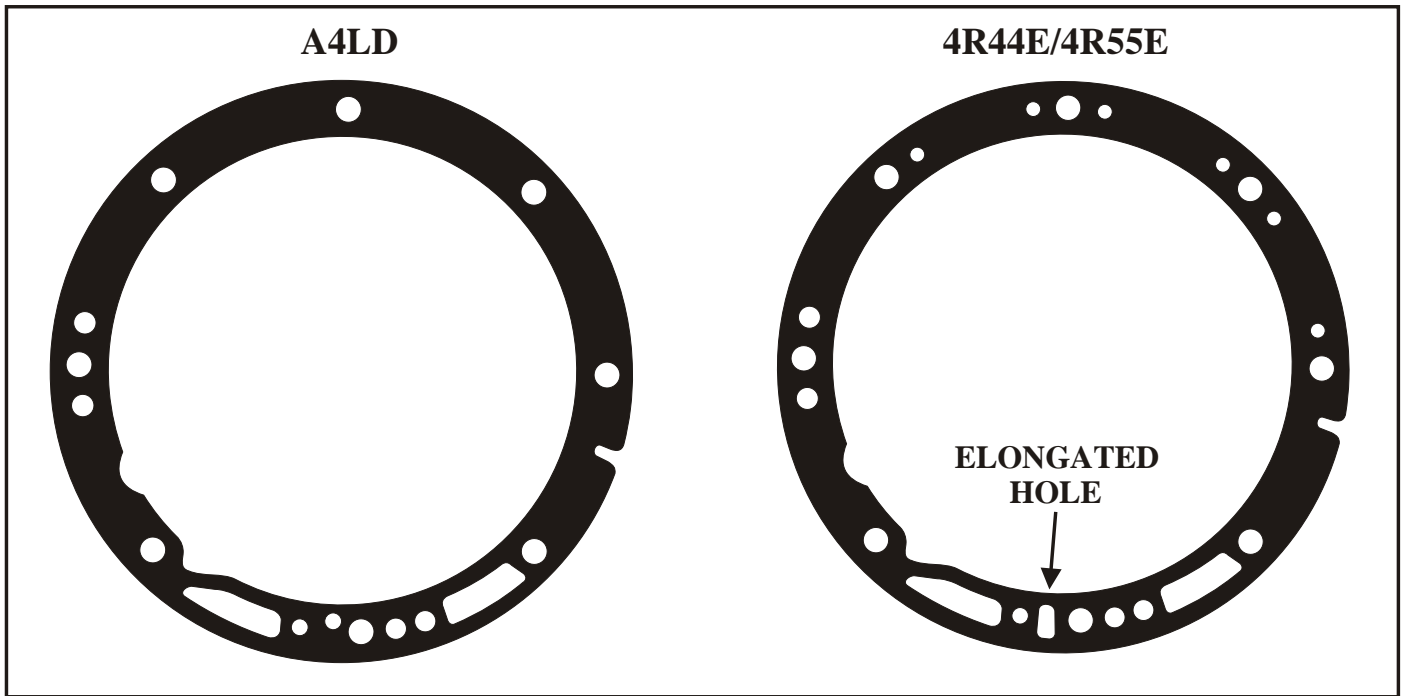

Figure 1
- (1) PUMP GASKET - An elongated hole was added to the 4R44E/4R55E pump gasket to accommodate changes in the related parts, for increased rear case lubrication. Refer to Figure 1.
Special Note: The 4R44E/4R55E pump and bell housing components can be used on the A4LD transmission, *when all parts listed above are used as a package*. It is not recommended to install A4LD parts onto a 4R44E/4R55E transmission. Refer to Figures 1 through 5.